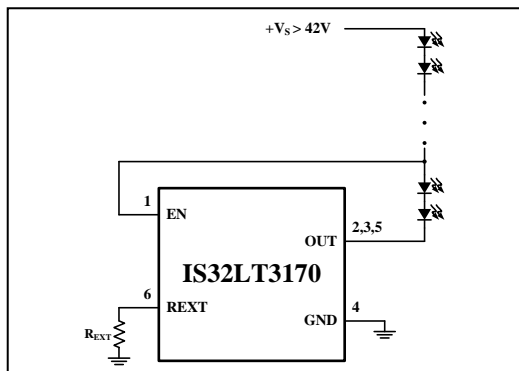

Figure 34 High Input Voltage Application Circuit
When driving a long string of LEDs whose total forward voltage drop exceeds the IS32LT3170  $V_{BD\_OUT}$  limit of 42V, it is possible to stack several LEDs (such as 2 LEDs) between the EN pin and the OUT pins 2,3, and 5 so the voltage on the EN pin is higher than 5V. The remaining string of LEDs can then be placed between power supply  $+V_S$  and EN pin, (Figure 34). The number of LEDs required to stack at EN pin will depend on the LED's forward voltage drop (VF) and the  $+V_S$  value.